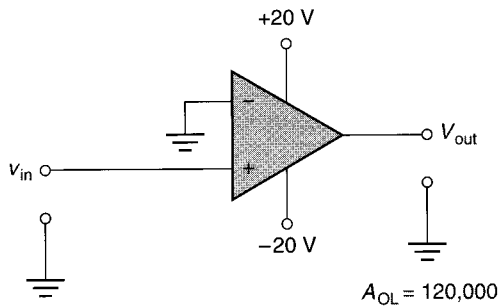

FIGURE 16.34
1. Determine the value of  $V_{\text{ref}}$  for the comparator in Figure 16.34.